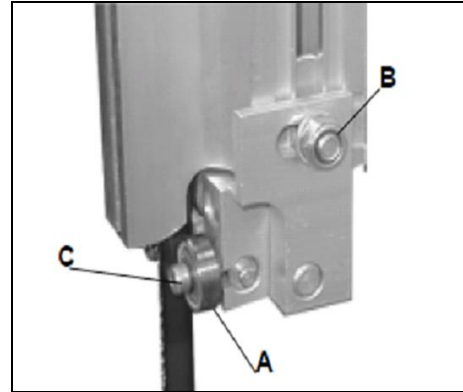

Fig 24
Loosen the hex nut (B, Fig 24) and position the guide assembly forward/ backward so that the teeth keep a distance of approx. 2mm to the lateral guide rollers (A).